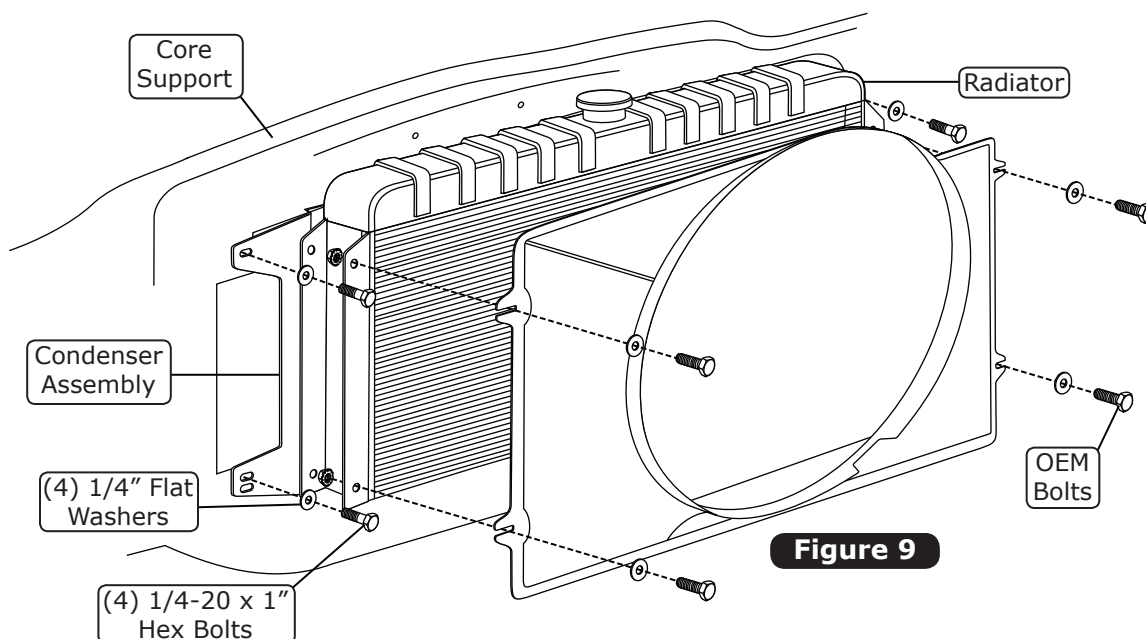

Figure 9
3. Secure the condenser to the core support using (4) 1/4-20 x 1" hex bolts and (4) 1/4" flat washers as shown in Figure 9, below.
4. Reinstall the fan shroud using the OEM hardware as shown in Figure 9, below.